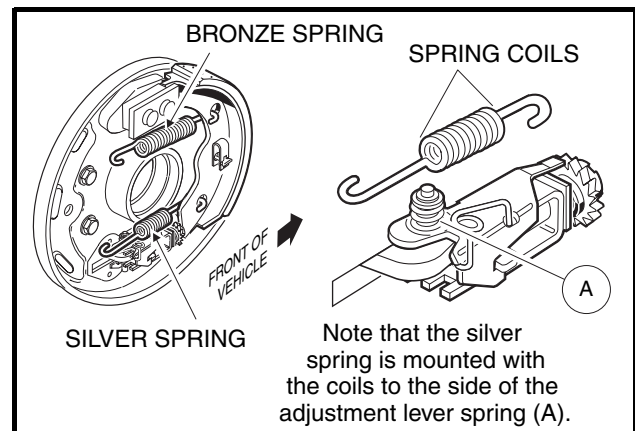

Figure 6-14 Attach Springs
3. Attach the springs onto the trailing shoe already installed. Then hold the leading shoe next to the trailing shoe, correctly oriented, and attach the springs to it (Figure 6-14, Page 6-6).